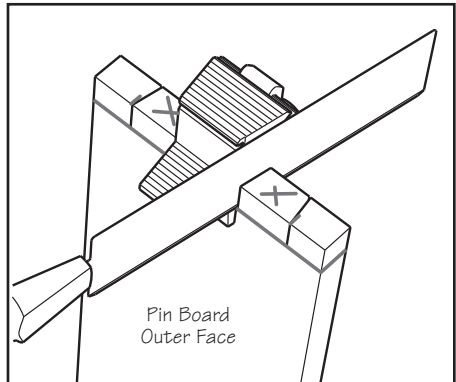

Figure 14: Cutting the pins.
14. Clamp the pin board (outer face towards you) in a vise and cut the pins in much the same way as the tails. Ensure that the guide is placed **to expose the waste area**, and that it is located exactly on the outer tip of the mark. Cut all the way to the depth line, ensuring that the saw remains level as the cut nears completion. See **Figure 14**.